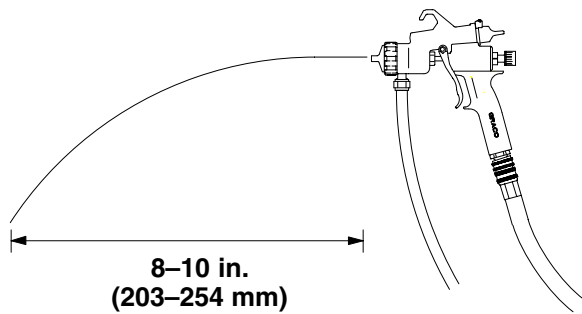

Fig. 3
2. For remote pressure pot, hold gun parallel to floor and adjust fluid pressure at 8 to 10 inch (203 to 254 mm) fluid stream. See Fig. 3.